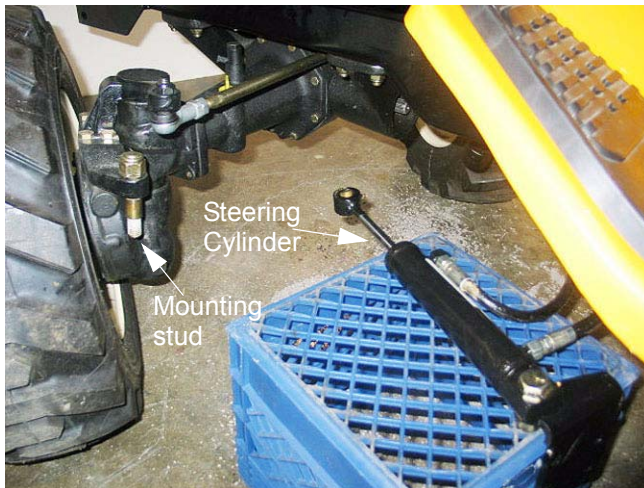

Figure 3.6
- 3.6. Lower the steering cylinder carefully off of the mounting stud, and position it safely out of the way. See Figure 3.6.